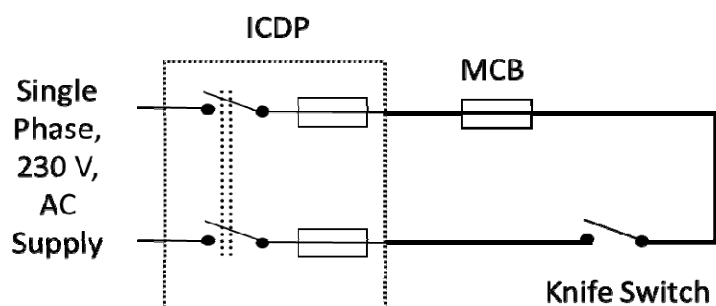

Fig. 2
- i. Connect ICDP, MCB, and knife switch (should be open) as shown in the Fig.2.